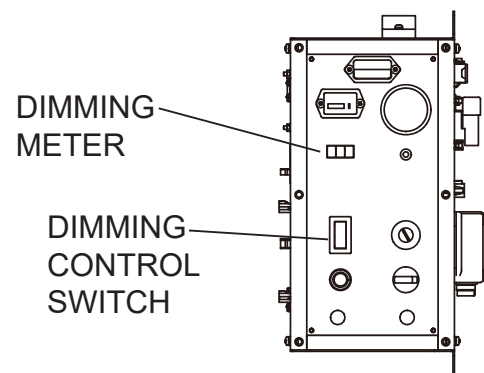

Figure 17. Dimming the Lamp
1. Press the lower part of the dimming control switch to dim the lamp. The lamp can be dimmed from 100% to 40% brightness. The dimming meter will indicate how dim the lamp is (Figure 17).